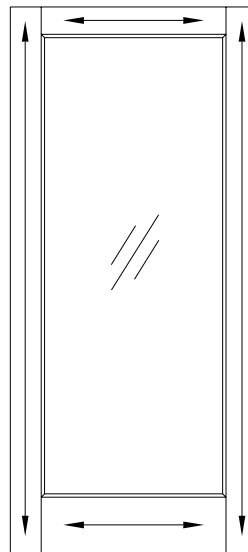

Figure 4
- Stain door to desired color following manufacturer's instructions. Always stain in the direction of the wood grain, see Figure 4.
- Finish the door with two coats of latex, oil-base or lacquer paint. Make sure to allow door to completely dry between coats on all six sides of door. Always paint in the direction of the wood grain, see Figure 4.